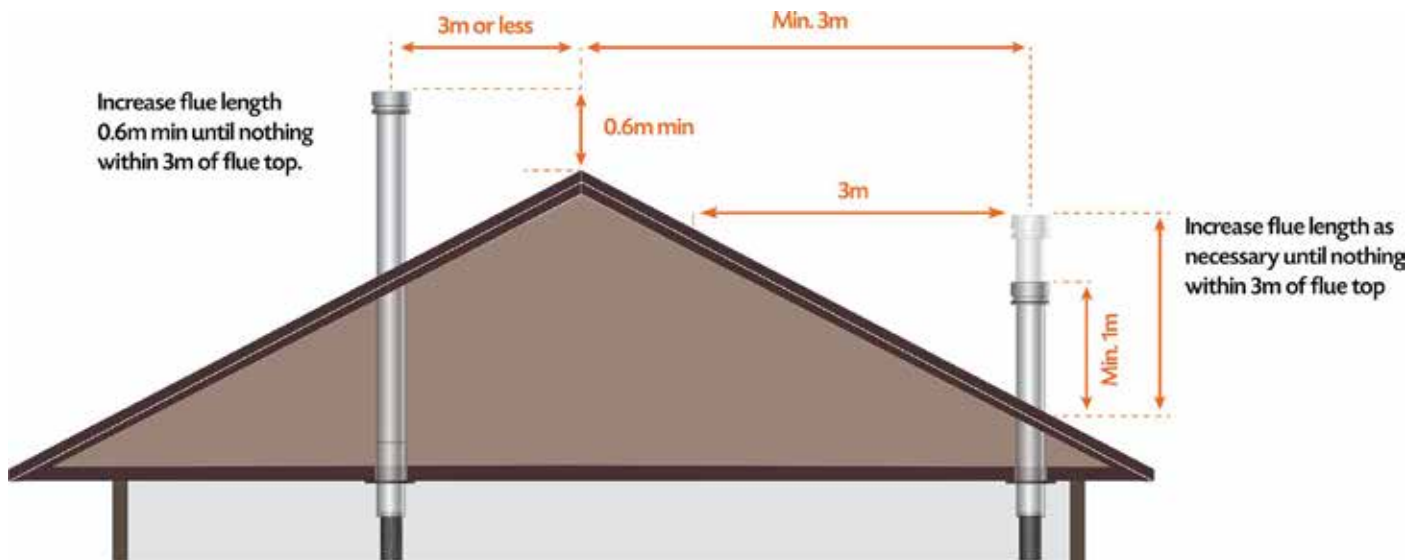

FIGURE 1
7. Add the remaining casings to the required height. Australian/New Zealand Standards state that "the flue pipe shall extend not less than 4.6m above the top of the floor protector". If the flue pipe is within 3 metres of the ridge, the flue pipe must protrude at least 600mm above the ridge of the roof. If the distance from the ridge is more than 3 metres, the flue pipe must protrude at least 1000mm above roof penetration. Additional lengths of casing and flue may be required to achieve this. The flue pipe must be more than 6 metres from any nearby structure. Other clearances may be applicable, it is up to the installer to ensure compliance with all regulations. See Figure 1 and 2 on P7.
7. Add the remaining casings to the required height. Australian/New Zealand Standards state that "the flue pipe shall extend not less than 4.6m above the top of the floor protector". If the flue pipe is within 3 metres of the ridge, the flue pipe must protrude at least 600mm above the ridge of the roof. If the distance from the ridge is more than 3 metres, the flue pipe must protrude at least 1000mm above roof penetration. Additional lengths of casing and flue may be required to achieve this. The flue pipe must be more than 6 metres from any nearby structure. Other clearances may be applicable, it is up to the installer to ensure compliance with all regulations. **See Figure 1 and 2 on P7.**